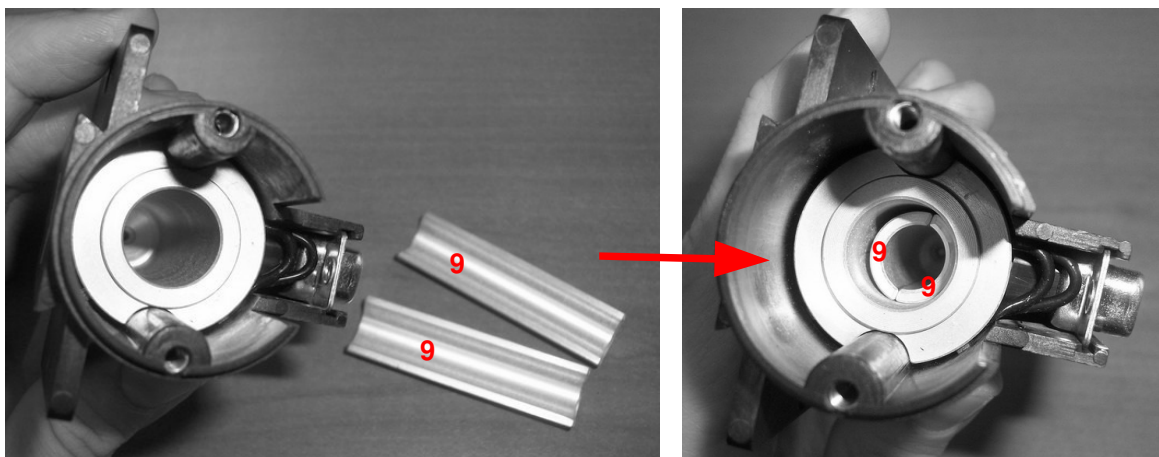

Figure 113: Lower spacers positioning
6. Re-assemble the syringe warmer assembly. Start by placing the lower spacer (number 9 in **Figure 113**) inside the heating body. This operation must not be carried out for 5ml syringe.
6. Re-assemble the syringe warmer assembly. Note that the lower spacers (number 9 in **Figure 113**) are not required for the 5ml syringe.
19. Re-assemble the syringe warmer assembly. Start by placing the lower spacer (number 9 in **Figure 113**) inside the heating body. Please note that 1ml lower spacer has a lower diameter than the 2.5ml one.